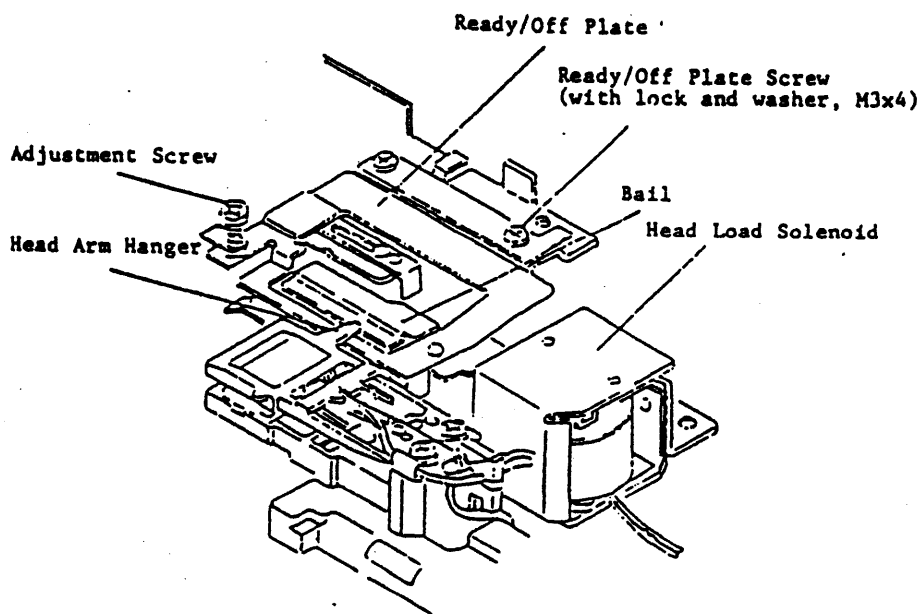

Figure 4.10.1
- 2) Make sure that the Ready/Off plate is below the head arm hanger when reattaching the carrier assembly. (See page 24, figure 4.10.1)
3. Take out the Ready/Off plate screws and remove the Ready/Off plate. (See figure 4.10.1)